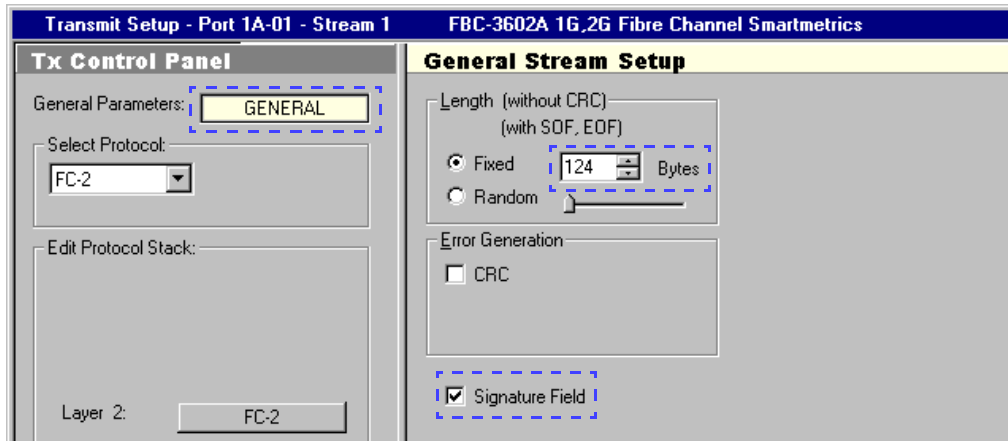

Figure 13-12. Adjusting Frame Makeup to Accommodate Payload Length
In addition, payload length is reduced by 18 bytes when the SmartMetrics *Signature Field* checkbox is selected. The *Signature Field* checkbox is selected by default. If needed, disable it by editing the stream and clearing the *Signature Field* checkbox. (See Figure 13-12 on page 646.)
- 1 In the *Tx Control Panel* window, click the **General** button to open the *General Stream Setup* dialog box. (See *Figure 13-12 on page 646*.)